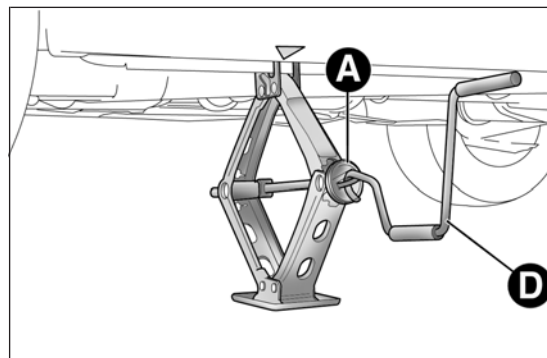
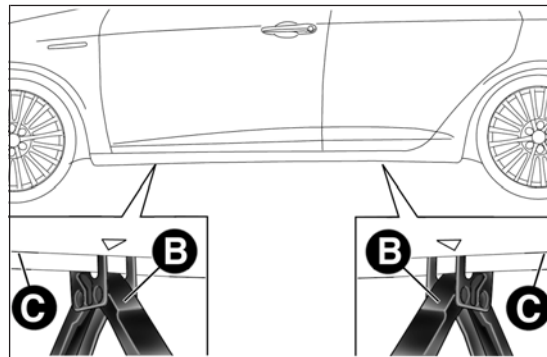

fig. 124
fig. 125
- operate the device A fig. 124 so as to extend the jack, until the upper part B fig. 125 is inserted correctly inside the side member C;
- fit handle D fig. 124 into the housing in device A, operate the jack and raise the car until the wheel is a few centimetres from the ground;
- operate the jack handle D fig. 124 to lower the vehicle. Then extract the jack;